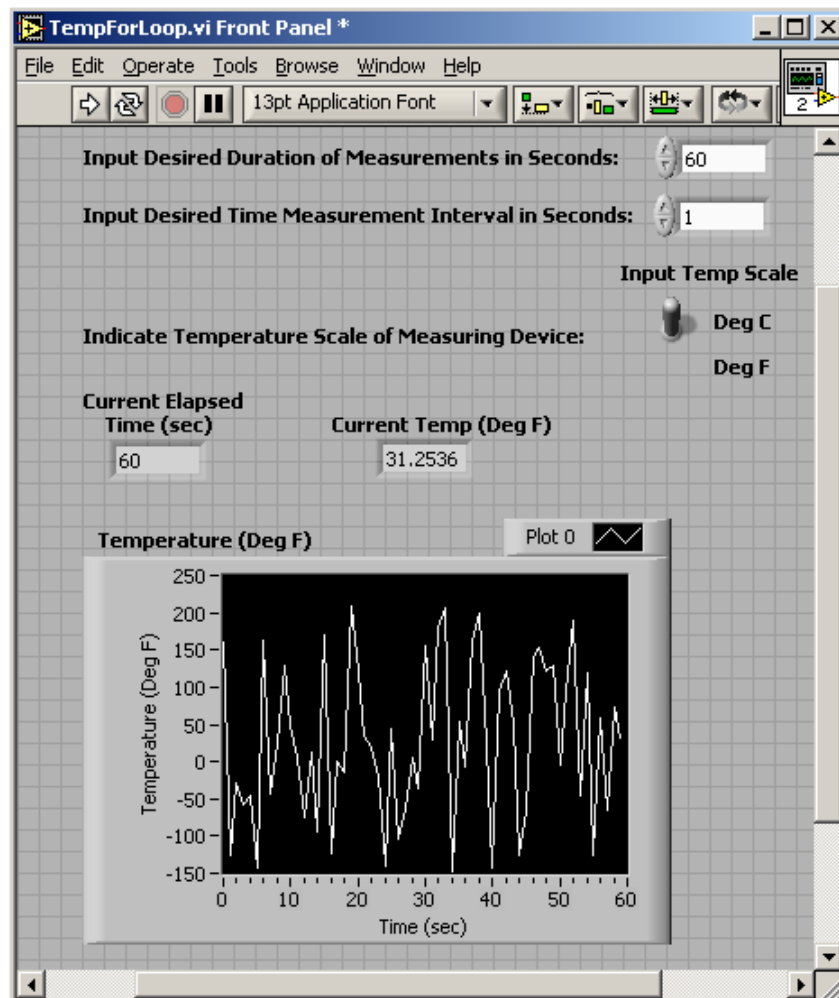

Figure 3.4: Temperature Measurement Front Panel
Switch: “Input Temp Scale”, and Right of the Switch: “Deg F” and “Deg C” as shown in Figure 3.4
5. Arrange the **Front Panel** as shown in Figure 3.4.